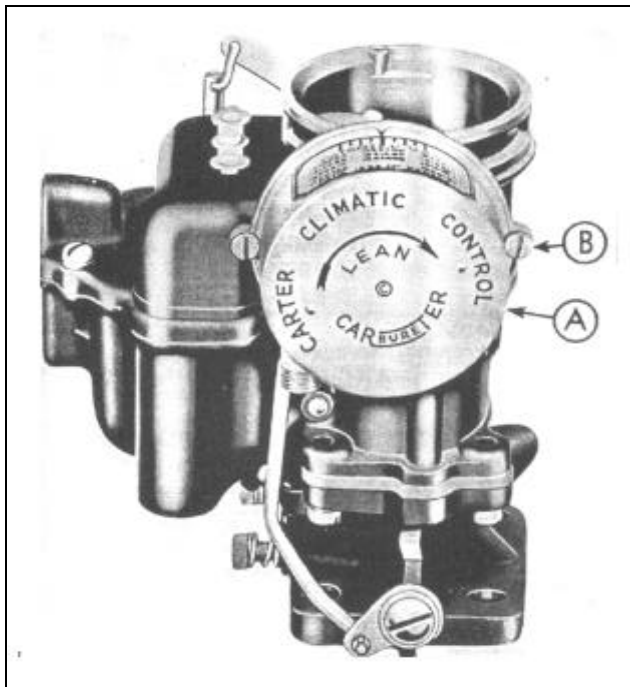

Figure 440
(164) Install thermostatic coil and housing assembly (A) with label downward. Insert attaching screws (B) and lock washers (C) part way and then turn housing counter-clockwise until pointer on piston plate housing and notch in coil housing are in line (see Figure 440), then tighten screws. Instructions for leaner or richer settings are clearly stamped on housing.
conditions, center index mark on coil housing should be in line with pointer. (See Figure 440).